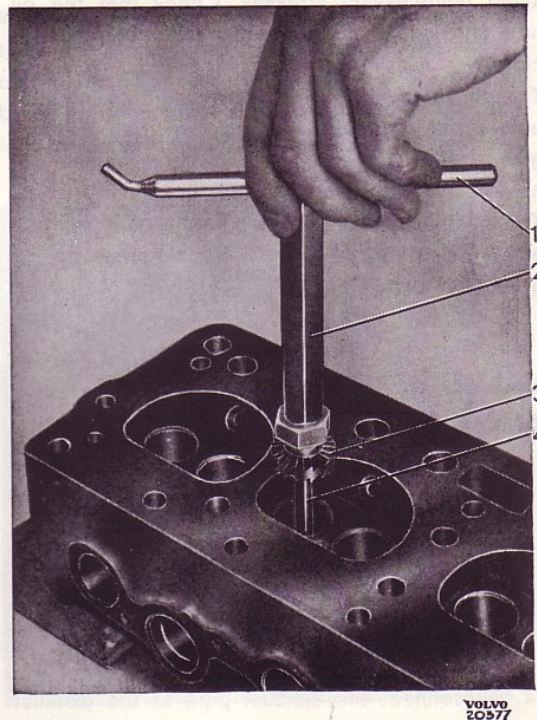

Fig. 22. Refacing the valve seats
2. Grind the valve seats. Use an electrically driven grinder or a hand milling cutter, see Fig. 22. A pilot spindle must be carefully fitted before work is started and any worn guides must be replaced with new ones.